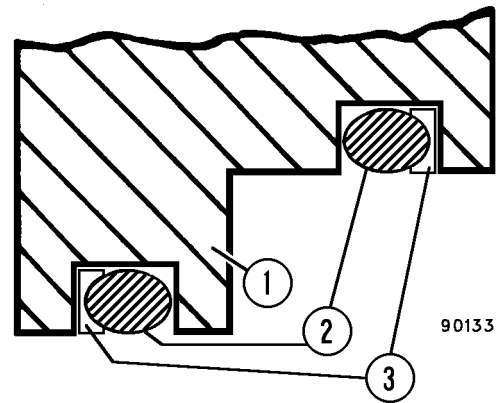

FIGURE 7-5. CORRECT INSTALLATION OF PACKINGS AND BACKUP RINGS IN PISTON HOUSING
3. Install packings (14 & 16) and backup rings (15 & 17) in grooves of housings (19 & 20) with rounded surfaces of backup rings against the packings and flat surface of backup rings against the piston housing as shown in Figure 7-5.